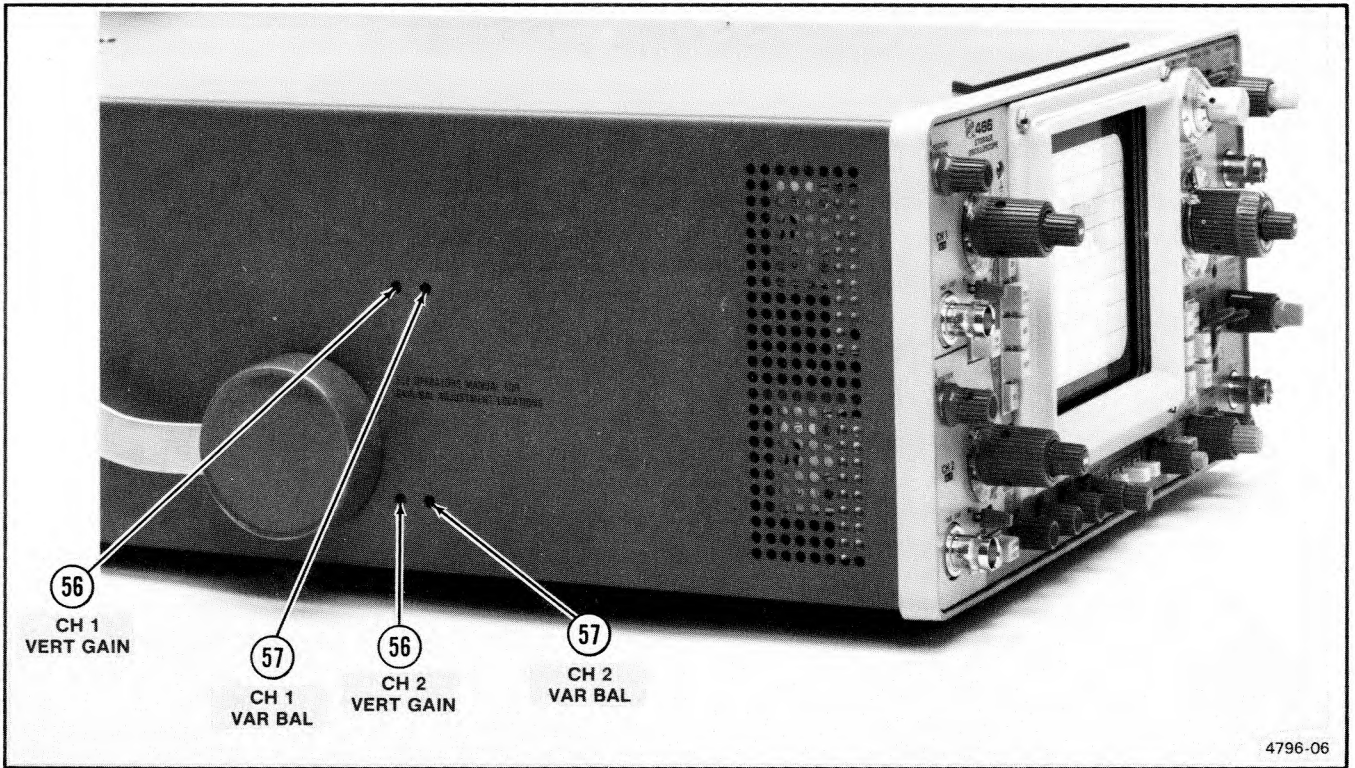

Fig. 2-7. Left Side Panel controls.
See Fig. 2-7 for location of items 56 and 57.